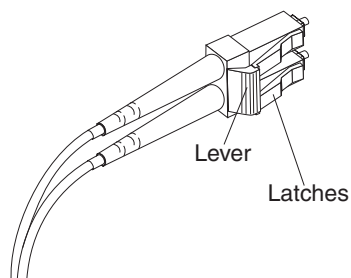
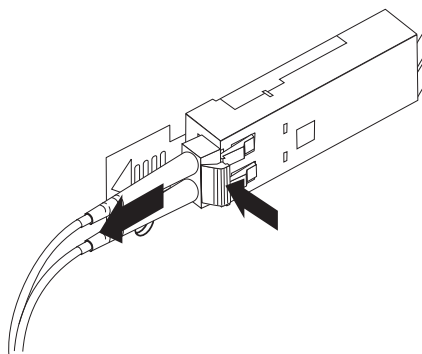

Figure 21. LC-LC Fibre Channel Cable lever and latches
Figure 22. Removing the LC-LC Fibre Channel cable
1. On the end of the LC-LC cable that connects into the SFP module or host bus adapter, press down and hold the lever to release the latches, as shown in Figure 21. Carefully pull on the connector to remove the cable from the SFP module, as shown in Figure 22.